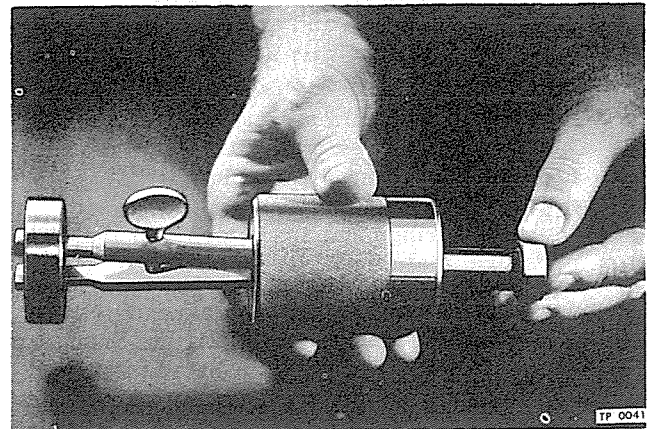

Figure 3—Typical Pilot Bearing Removal Tool
1. Install six special cap screws (3/8"-16 x 1-1/2", threaded 1 inch) through holes in cover plate (33) located directly above each release lever. Turn screws into pressure plate (10) as far as possible. This procedure relieves pressure spring (34) load so cap screws (36) can be easily removed.
3. Remove cover bolts (36), meanwhile supporting clutch to prevent distortion of clutch dowels (8). Tap flange of clutch cover with soft mallet to free clutch. Remove clutch assembly and driven disc.
4. Remove bolts (41) bearing retainer (3) and gasket (2) retaining pilot bearing in flywheel. Remove pilot bearing (42) using tool (CS-1914) shown in figure 3. Spread puller prong in bearing by tightening thumb screw, then slide weight on puller